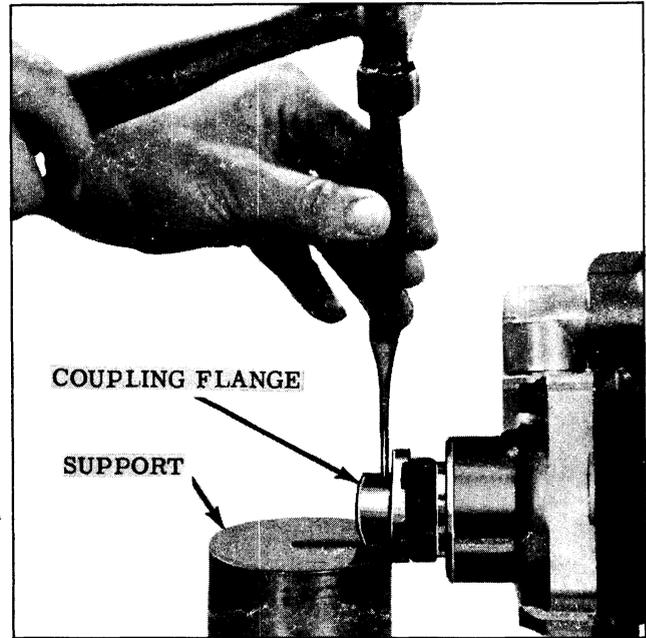

Fig. 5-26 Coupling Flange Pin Removal
2. Drive out coupling flange retaining pin. (See Fig. 5-26)